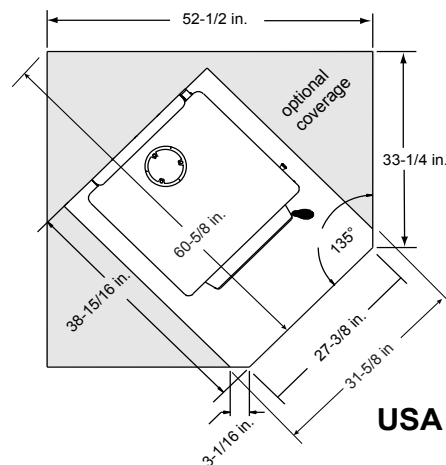

Figure 8.2
***EXCEPTION:** Non-combustible floor protections must extend beneath the flue pipe when installed with horizontal venting and extend 2 inches (51mm) beyond each side. **See Figure 8.2**